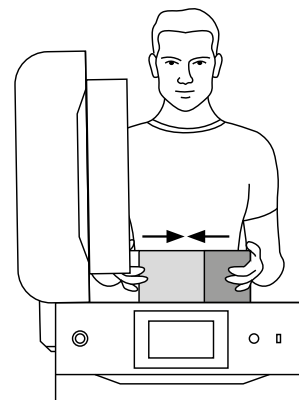

Fig. 8.4 Closing the IO BOX.
7. Join the IO BOX elements together like in the figure 8.4.